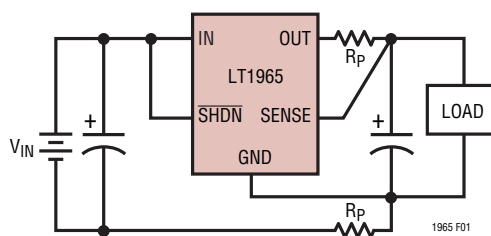

Figure 1. Kelvin Sense Connection
**SENSE (Pin 3 / 3 / 5 / 5):** Sense. For fixed voltage versions of the LT1965 (LT1965-1.5/LT1965-1.8/ LT1965-2.5/LT1965-3.3), the SENSE pin is the input to the error amplifier. Optimum regulation is obtained when the SENSE pin is connected to the OUT pin of the regulator. In critical applications, small voltage drops are caused by the resistance ( $R_P$ ) of PCB traces between the regulator and the load. These drops may be eliminated by connecting the SENSE pin to the output at the load as shown in Figure 1 (Kelvin Sense Connection). Note that the voltage drop across the external PCB traces will add to the dropout voltage of the regulator. The SENSE pin bias current is 100 $\mu$ A at the nominal rated output voltage.